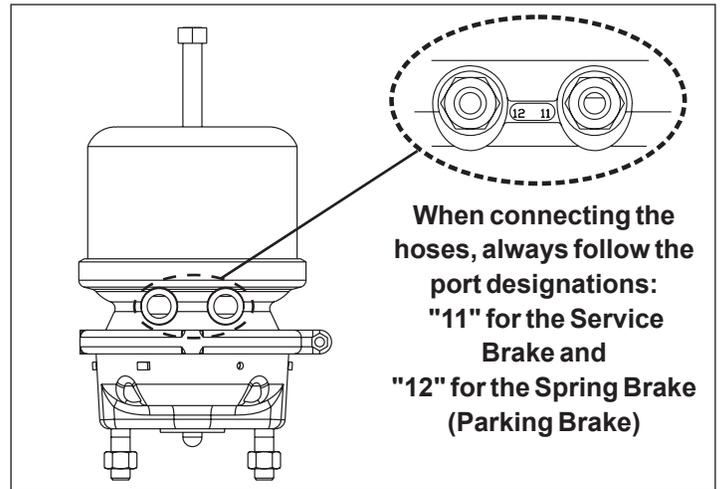

Figure 19 - Spring Brake Port Connections
Install a new adjuster cap (6)—provided in the brake pad kit. Note: Two types of adjuster caps are included in the kit, use the same type as was originally installed. For caps with a tab, the tab of the adjuster cap should be positioned as shown by the arrow in Figure 19 for ease of access.